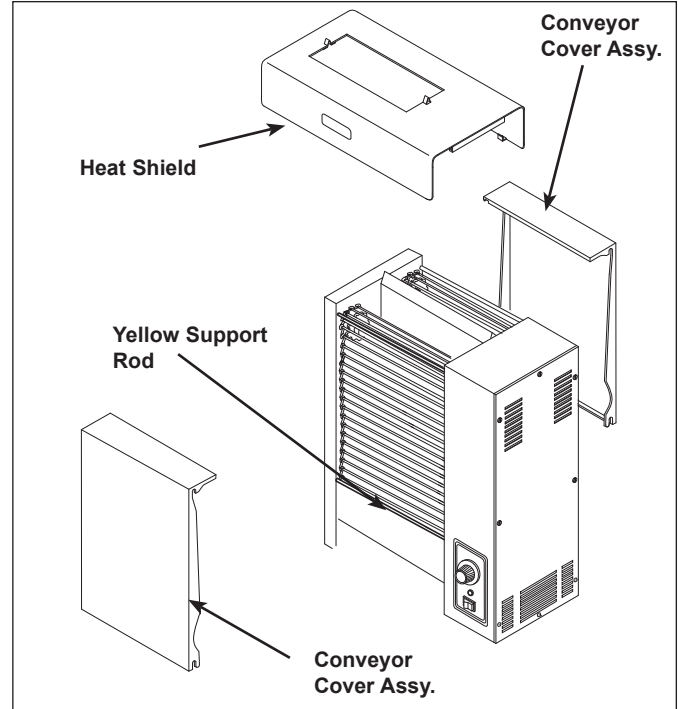

Figure 1. Installing Damper Assy.
1. Remove the Heat Shield and the front and rear Conveyor Covers (Figure 1).
2. Install the Damper Assembly. (Figure 1).
2. Put on heat-resistant gloves and remove the Butter Wheel (if equipped), Pan, and Heat Shield (Figure 1).
2. Remove the Bun Feeder, Butter Wheel, Pan, and Heat Shield (Figure 1) and set the Bun Thickness Compression Knobs to 6 & 6.